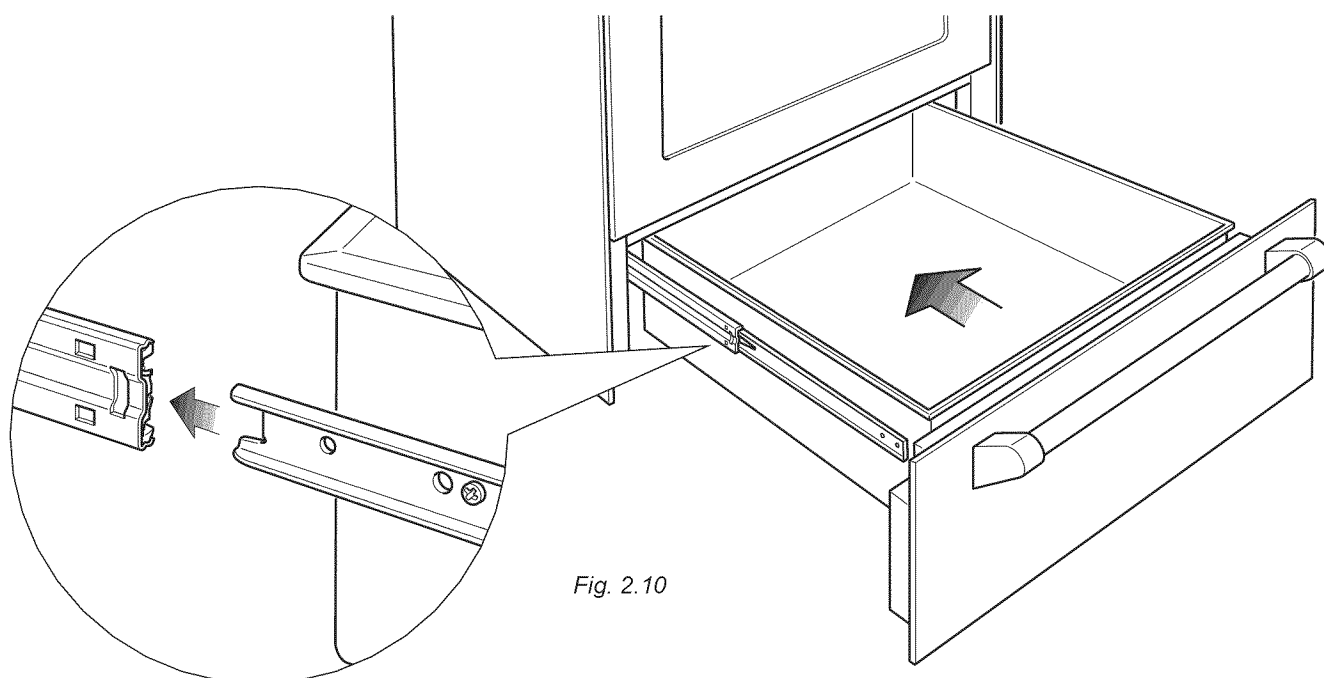

Fig. 2.10
1. Insert the drawer guides into the range guides (fig. 2.10).